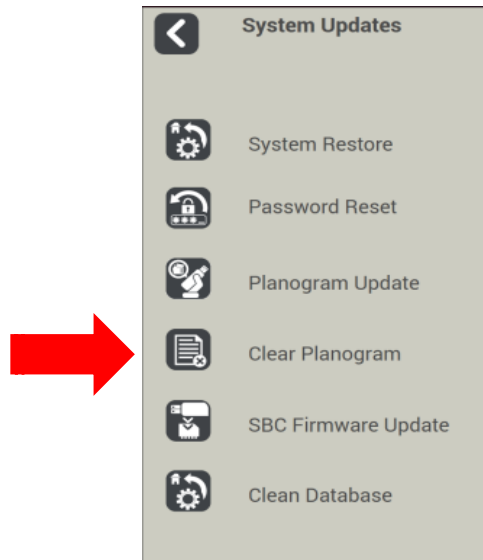

Figure 54
4. Select system updates and select **Clear Planogram**. (See figure 54.)